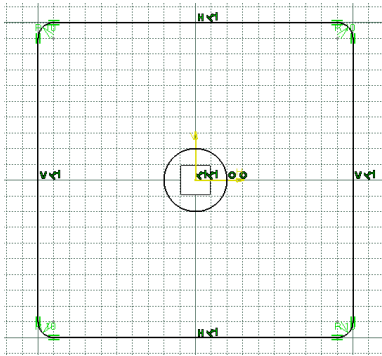

Figure 3-57 The sketch after drawing the circle
2. Move the cursor horizontally toward the right and click to specify a point on the circle when the value of the radius is displayed as **20** in the **R** edit box. The sketch after drawing the circle is shown in Figure 3-57. Next, you need to draw an elongated hole using the **Elongated Hole** tool.